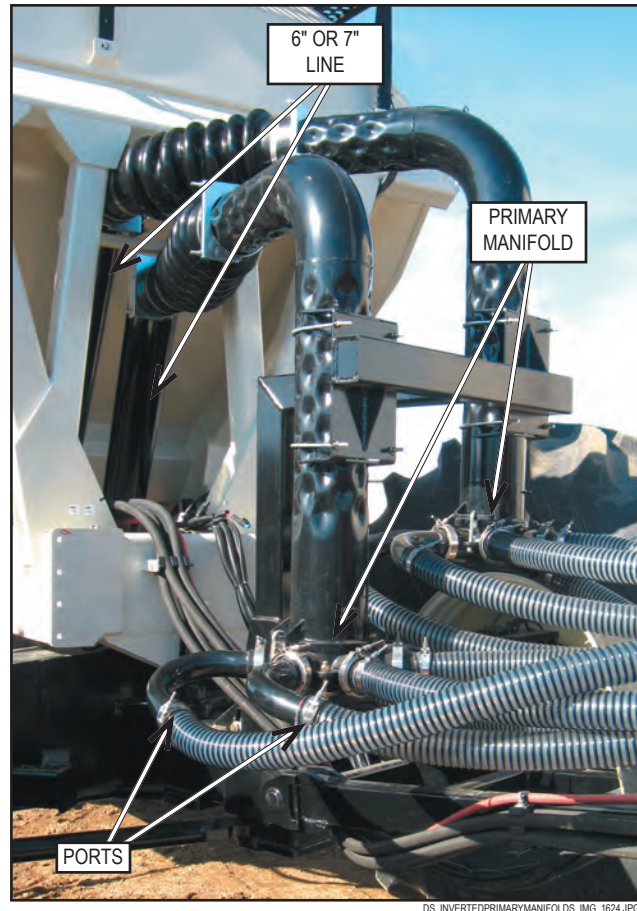

Figure 1 - Primary Line, Manifold and Ports (Double shoot is shown)
3. Count the number of ports on the primary manifold. This is the manifold being fed by the 6" or 7" pipe from the Air seeder tank, refer to *Figure 1*.